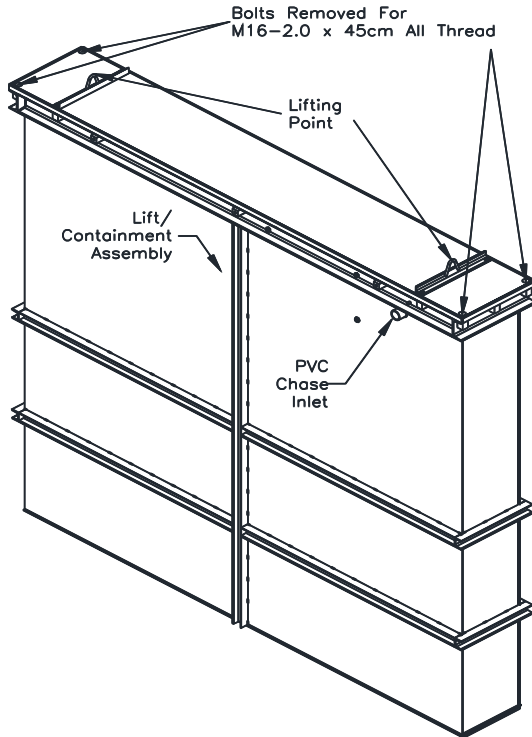

Fig 4 – Pick Up Points
1. For best balance of lift /containment assembly while lowering into excavation use lifting bracket lifting points. The lifting brackets are included with the lift and will need to be installed using the hardware and in the locations shown in Fig 4.
3. Remove the outer two bolts from each end of the protective cover plate and replace with M16-2.0 x 45cm (18") threaded rods, see Fig 4 and 5. Lock the threaded rod into the lift with a M16-2.0 jam nut. Attach two 6" x 6" timbers using M16-2.0 nuts and washers, to support the lift / containment assembly on the existing floor. Remove the shipping straps and replace the M16 x 40 hex socket head screw. Torque the bolts to 89 ft-lbs.